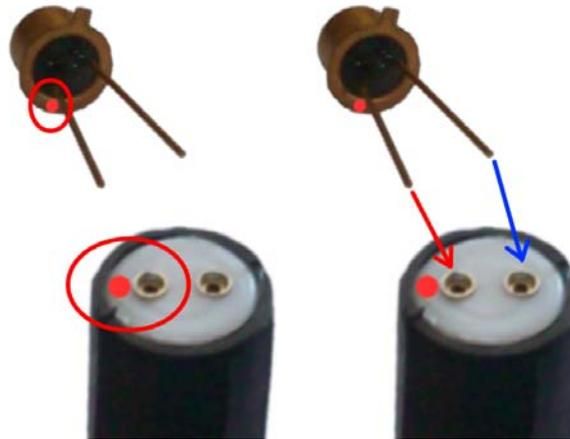

Fig.2. Observance of polarity during the connection between the PD and the PD connector (1).
1. Carefully combine the wires of the PD with pins of connector "PD" (1) tightly till fixation (fig.2).
Note! Marked with the red point pin of connector "PD" must be connected with the appropriate wire of the PD (It's marked with the red point too, fig.2). In the case of wrong junction the PD can be damaged.